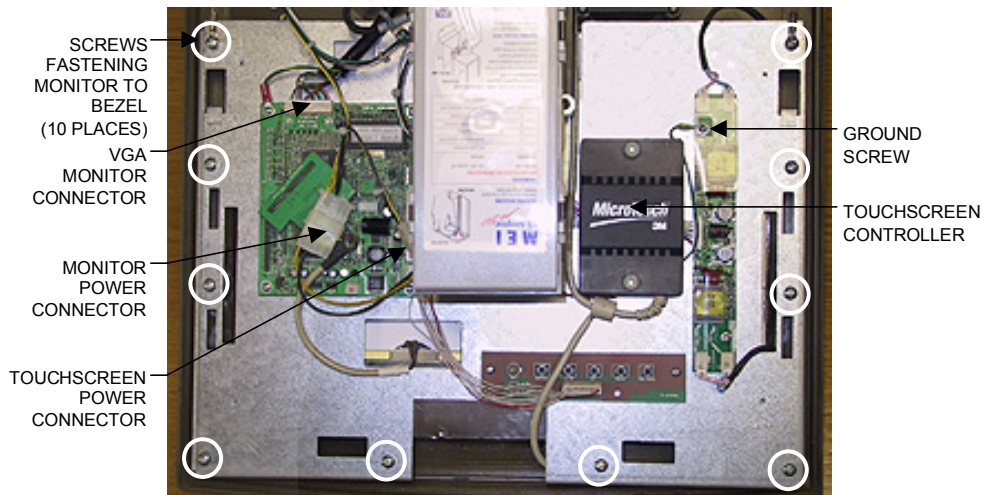

FIGURE 8 - FORCE VIBE - MONITOR REMOVAL
4. Disconnect the VGA monitor cable connector and the screw fastening the cable to the monitor mounting plate, and also disconnect the ground screw. Then disconnect the monitor power connector. See Figure 8.
5. Remove the 2 thumbnuts securing the touchscreen controller to the game and remove the controller from the mounting screws. Then disconnect the cable from the back of the controller and disconnect the Molex connector (orange and gray wires) running from the touchscreen controller cable to the main power harness. Also disconnect the ground screw. See Figure 8.
6. Using Figure 8, remove the 10 screws fastening the monitor to the bezel (2 screws also fasten strain relief cords on either side of the CPU) and carefully pull the monitor assembly away from the bezel until you're able to access the touchscreen.
14. Replace the monitor assembly in the bezel, lining up the screw holes in the monitor with the holes in the bezel, then replace the 10 screws. See Figure 8.
15. Reconnect the VGA monitor cable connector and the screw fastening the cable to the monitor mounting plate, and also reconnect the ground screw. Then reconnect the monitor power connector. See Figure 8.